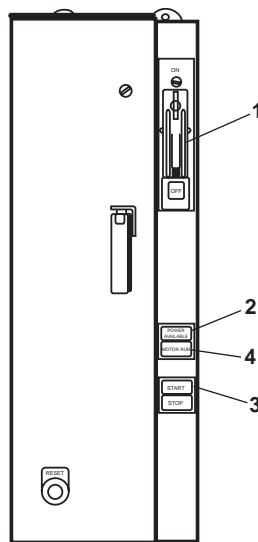

Figure 8. Reduction Gear Fresh Water Cooling Pump Motor Controller
- a. Set the ON-OFF switch (figure 8, item 1) to the ON position.
- b. Verify that the POWER AVAILABLE indicator (figure 8, item 2) is energized.
- c. Press the START pushbutton (figure 8, item 3).
- d. Verify that the MOTOR RUN indicator (figure 8, item 4) is energized.